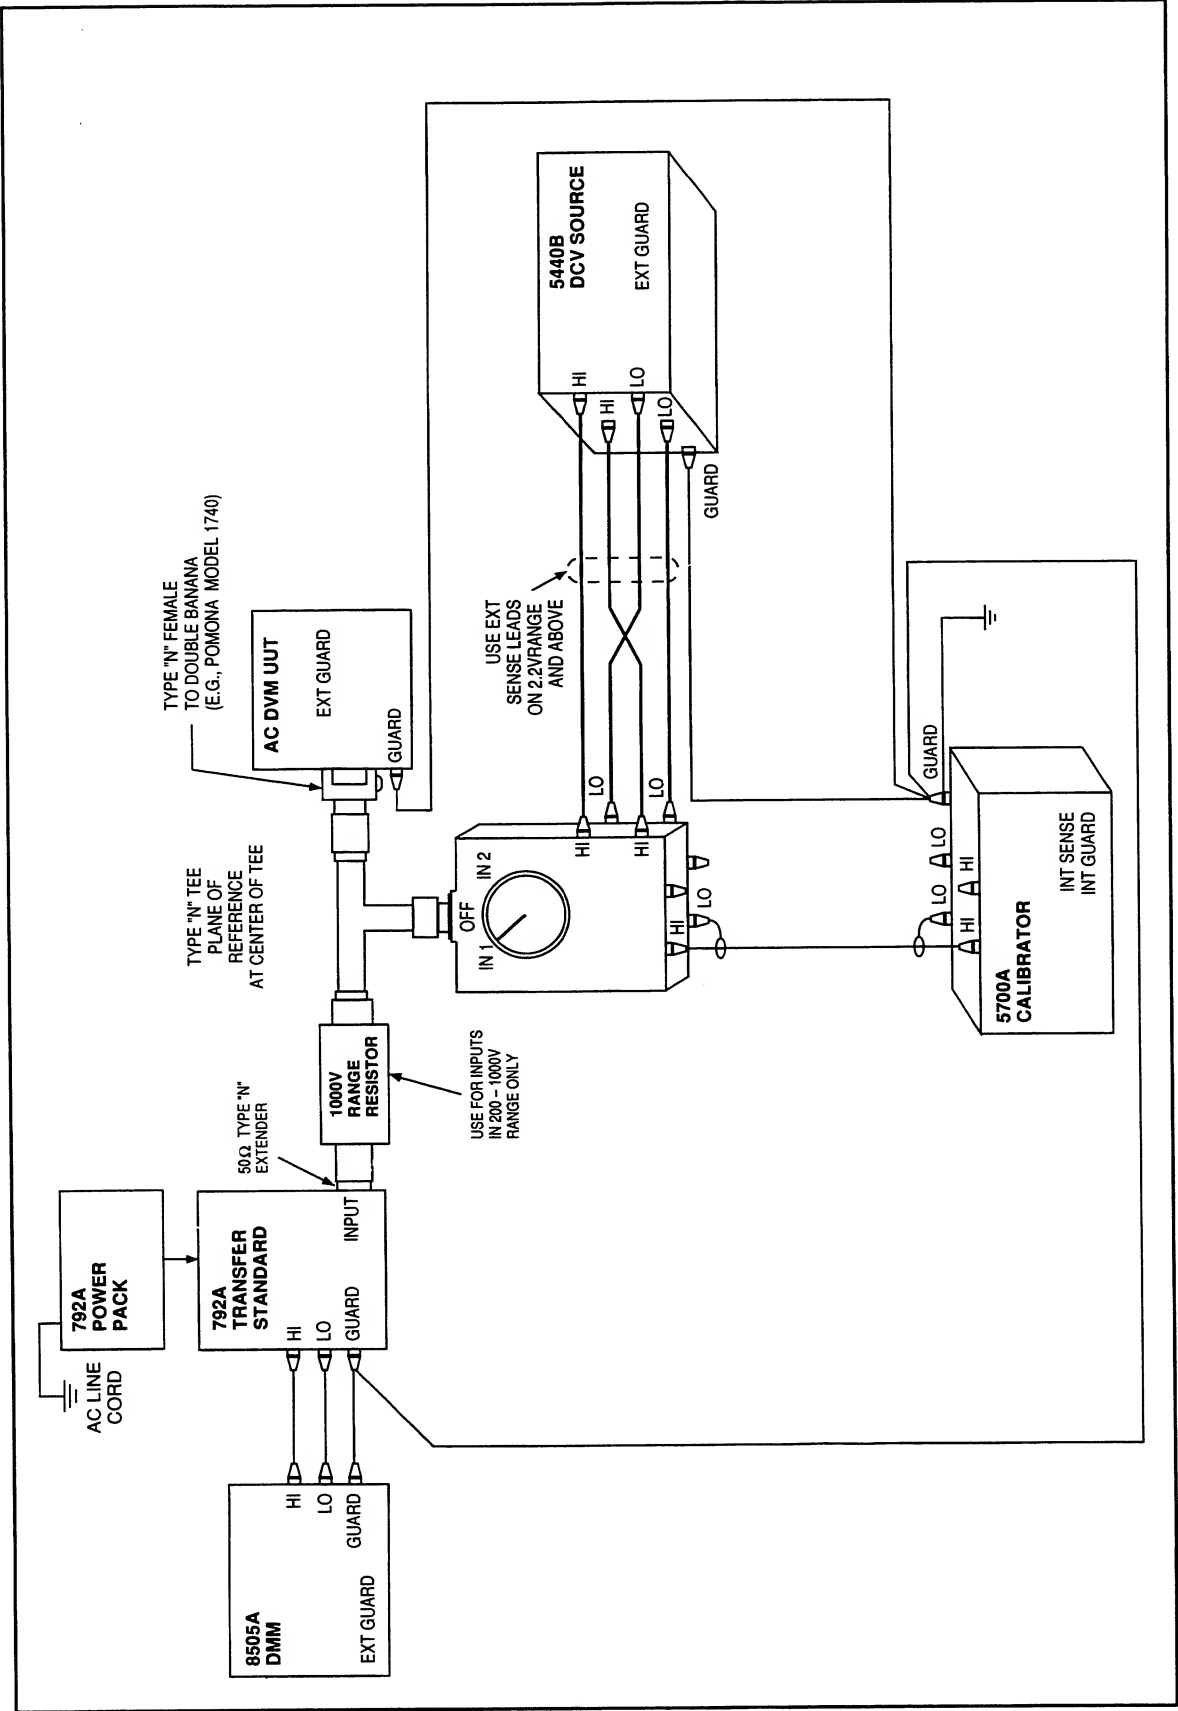

Figure 3-9. Calibrating an AC Voltmeter
This procedure uses the transfer standard to determine the absolute ac voltage applied to an ac voltmeter input. Simply observe the ac voltmeter reading to read its error at a particular voltage and frequency. The input of the UUT (in this case an ac voltmeter) is connected in parallel with the transfer standard input using a Type “N” tee connector as shown in Figure 3-9. The plane of reference is the center of this tee.
- a. Connect the ac and dc sources, the DMM, the ac voltmeter, tee connector, and the transfer switch to the transfer standard as shown in Figure 3-9. Verify that all instruments have satisfied their warmup requirements. (For the transfer standard, the warmup requirement is 15 minutes.) Use the 1000V range resistor and the 2.2V INPUT RANGE setting if the transfer voltage is between 200V and 1000V.